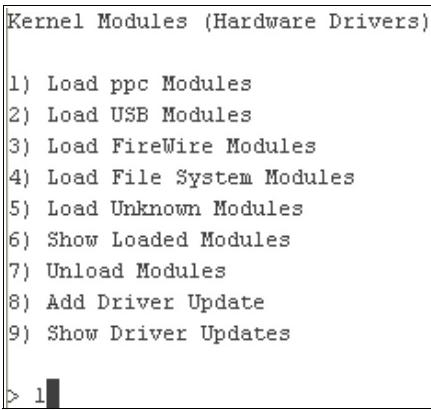

Figure 9-14 Load ppc Modules
3. Choose **1) Load ppc Modules**, as shown in Figure 9-14 on page 378.